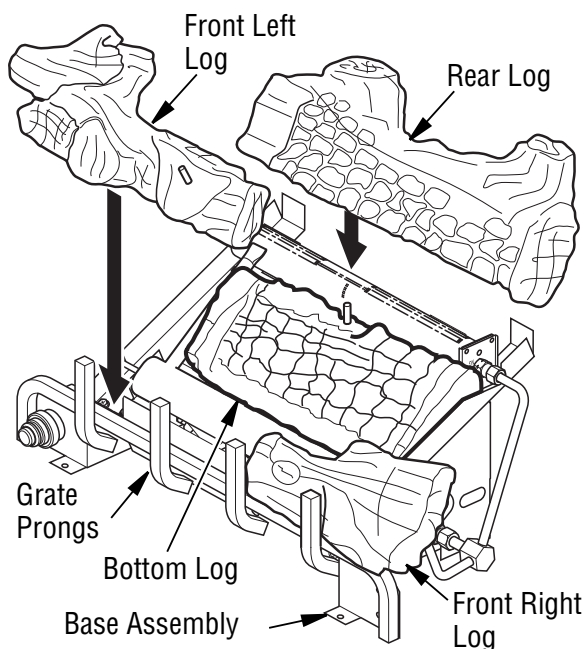

Figure 20 - Installing Log Set
3. Position front right log against right side of grate prongs (see **Figure 20**).